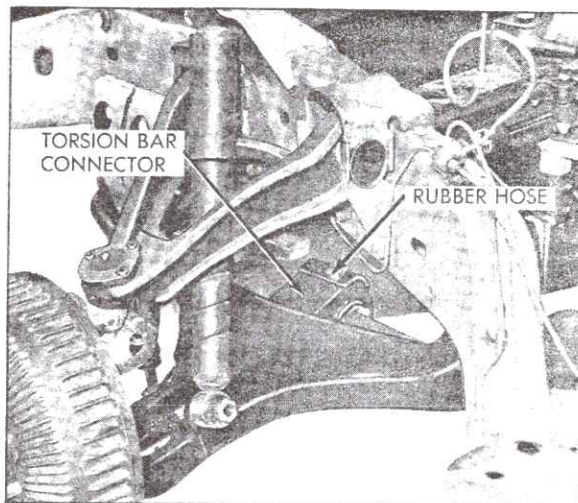

Fig. 3-34 Rubber Hose Location
14. Place a short length of rubber hose over the lower control arm torsion bar connector. Fig. 3-34.